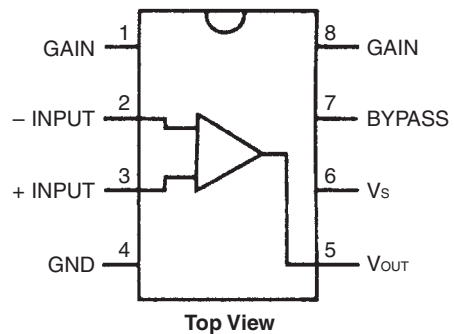

Figure 2
The purpose of the Audio Amplifier is to increase the audio power to a level sufficient to drive an 8 ohm speaker. To do this, DC (direct current) from the battery is converted by the amplifier to an AC (alternating current) in the speaker. The ratio of the power delivered to the speaker and the power taken from the battery is the efficiency of the amplifier. For the Audio Amplifier, we use the integrated circuit (IC) LM-386. In Figure 2, you can see equivalent schematic and connection diagrams.